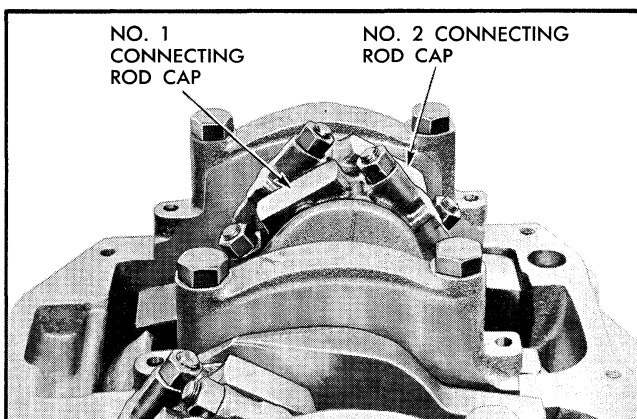

Fig. 6-136 Crankshaft Positioned for Removal of No. 1 and No. 2 Connecting Rod Caps
3. Rotate crankshaft as necessary to bring crankpin carrying bearing to be replaced straight down (Fig. 6-136).
3. Rotate crankshaft so crankpin carrying assembly to be replaced projects straight downward (Fig. 6-136).